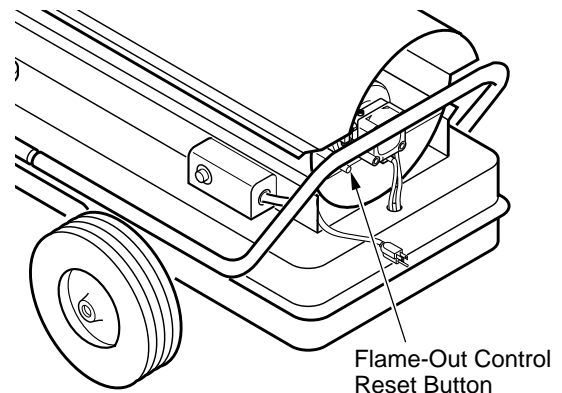

Figure 4 - Flame-Out Control Reset Button
8. The motor will start when extension cord is plugged into outlet. The heater should ignite at once. If heater does not ignite, restart heater. To restart heater, wait 60 seconds, then push in flame-out control reset button. Flame-out control reset button is at rear of heater near power cord (see Figure 4).